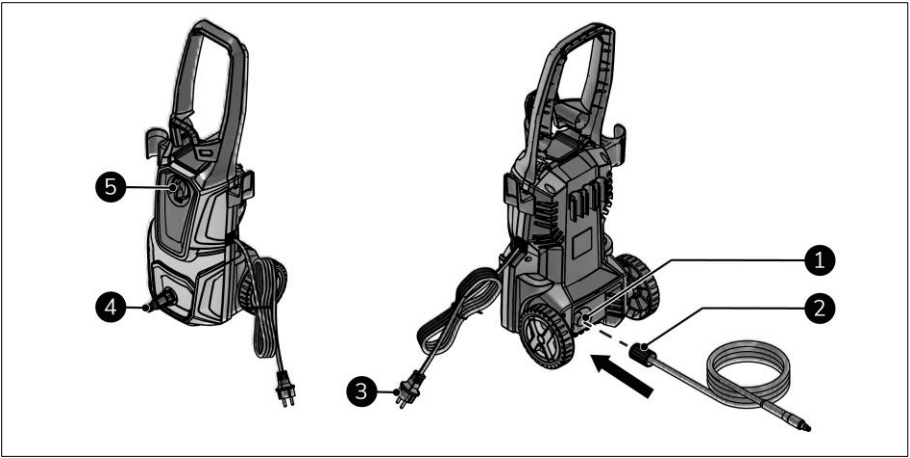

Figure 9
2. Make sure the ON(I)/OFF(0) switch is in the OFF(0) position (Figure 9, pos. 5).
3. Place the power plug (Figure 9, pos. 3) into a socket that is easily accessible.
4. For the first use only: remove the protective cap from the high-pressure water outlet (Figure 9, pos. 1).
5. Screw the high-pressure hose (Figure 9, pos. 2) to the high-pressure water outlet.
6. Connect the water supply to the device (Figure 9, pos. 4).